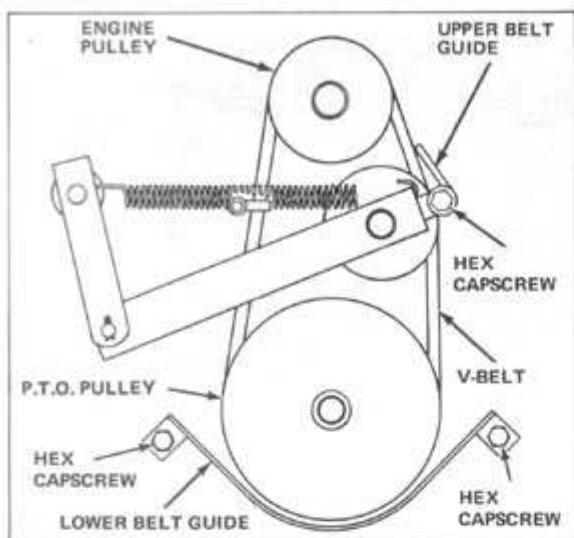

Figure 33
- With the P.T.O. lever still in the ON position, loosen the hex capscrew which secures the upper belt guide shown in Figure 33. Adjust upper belt guide for 1/8 to 1/4 inch clearance between belt and belt guide. Tighten hex capscrew securely.